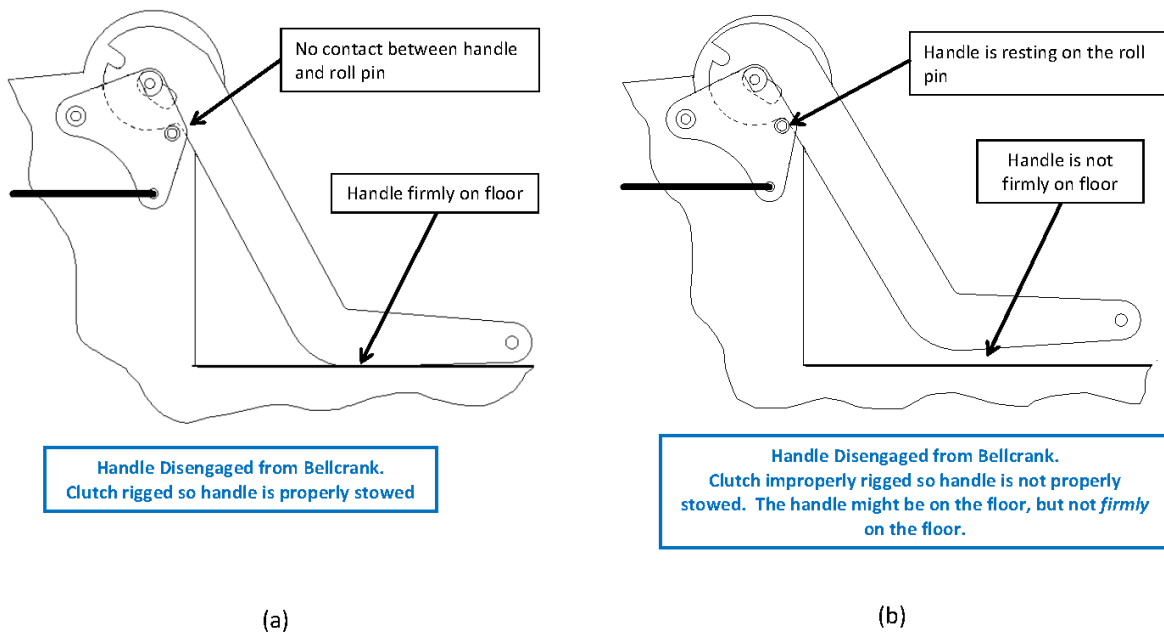

Figure 1 – Clutch Handle Stowed when Rigged Properly and Improperly
5.1.2 Verify the clutch handle is firmly on the floor as shown in Figure 1(a). Movement of the handle should have no effect on the P/N 28-16515-1 bellcrank.
5.2.1.2 When making the Final Clutch Lever Adjustment (Step E, page 4), verify the clutch lever (handle) is firmly on the floor when the clutch is engaged and the handle is in the stowed position (Figure 1).